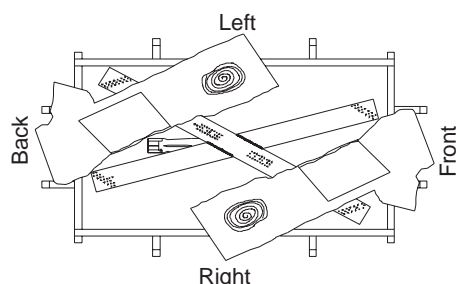

Figure 44 - Installing Logs "A" (Top View)
8. Place logs "A" as shown in Figure 44, page 19.